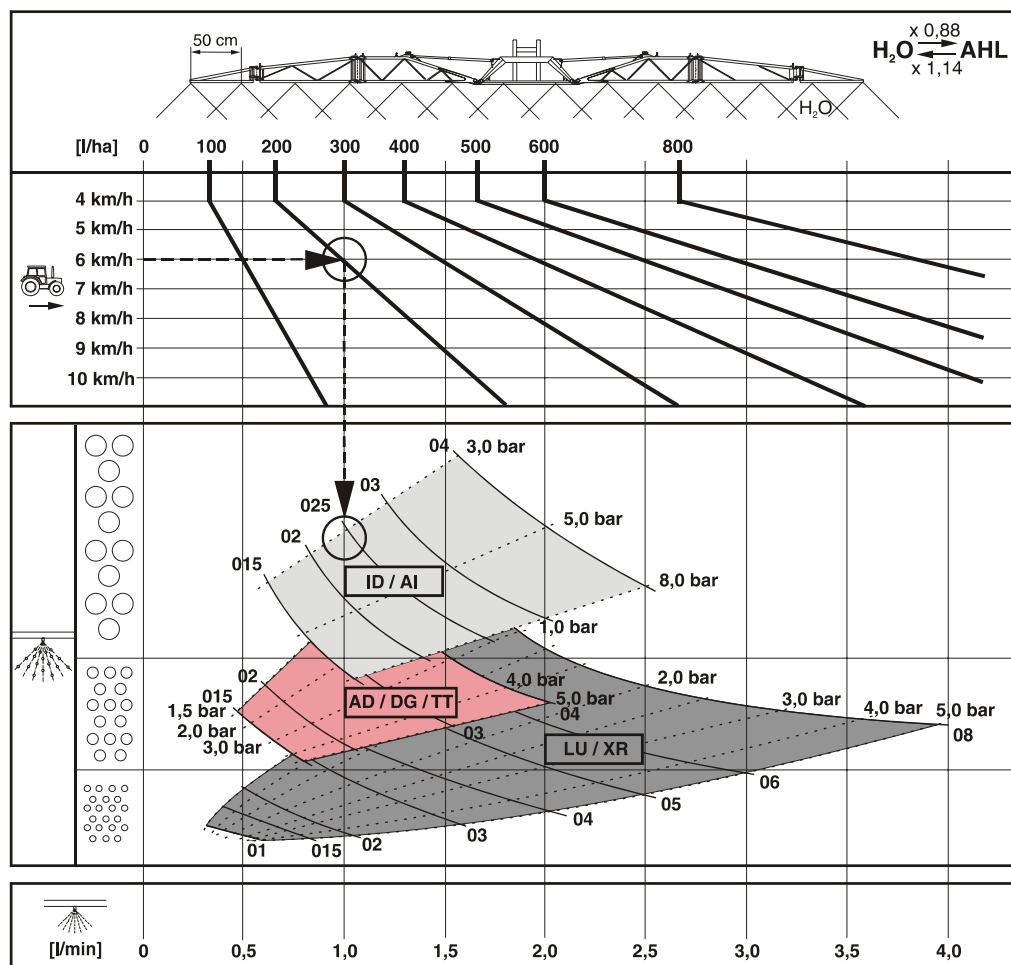

Fig. 167
1. Determine the operation point (Fig. 167/1) for the required spray rate [l/ha] and the intended forward speed [km/h].
2. Using a perpendicular line (Fig. 167/2) follow the position of operation point as this line crosses the characteristic diagram of the different nozzle types.